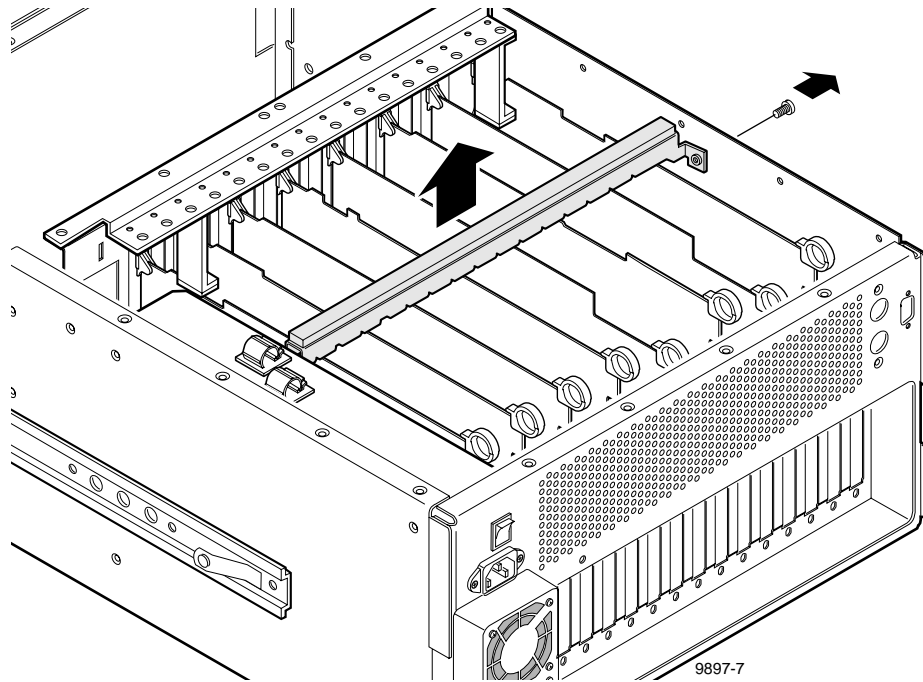

Figure 14. Removing the circuit board retainer
5. Remove the circuit board retainer as shown in Figure 14.